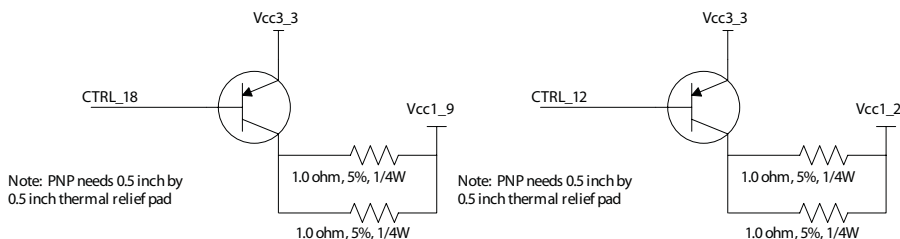
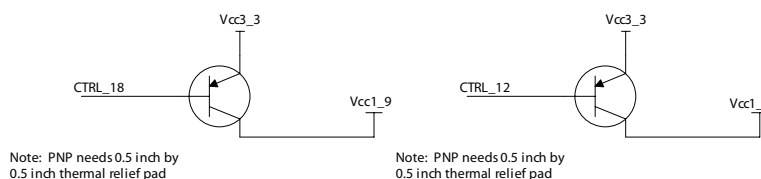

Figure 5. 82563EB 1.9V and 1.2V internal LVR schematic
Figure 6. 82564EB 1.9V and 1.2V internal LVR schematic
- The 82563EB/82564EB analog voltage (1.9V) will never exceed the 3.3V supply at any time during the power up. This is because the 1.9V supply is generated from the 3.3V supply when using the internal voltage regulator control logic (see Figure 5 and Figure 6 for a schematic of the internal LVR circuit). The 1.9V supply will track the 3.3V ramp.
- The 82563EB/82564EB core voltage (1.2V) will never exceed the 3.3V at any time during the power up. This is because the 1.2V supply is generated from the 3.3V supply when using the internal voltage regulator control logic (see Figure 5 and Figure 6 for a schematic of the internal LVR circuit). The 1.2V ramp is delayed internally to prevent it from exceeding the 1.9V and 3.3V supply at any time. The delay is proportional to the slope of the 3.3V ramp.
The effective resistance of the pass resistors should be approximately 0.5 Ω and have a combined power dissipation rating of 0.5 Watts for the 82563EB. Figure 5 shows the recommended implementation.
**Note:** No resistors are required for the 82564EB as shown in Figure 6 due to the reduction in current demand. See Figure 4.9 for more details regarding power consumption.